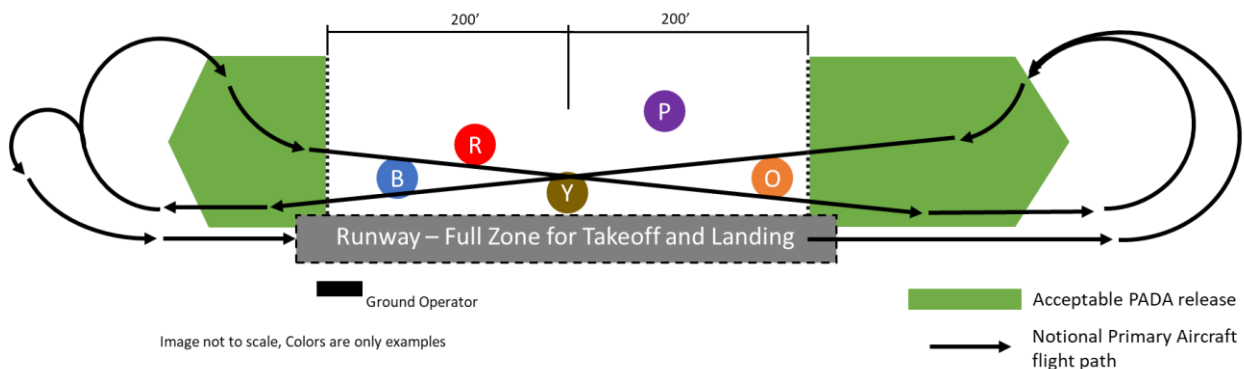

Figure 8-1 – Notional PADA Release Diagram. Not to scale.
- Complying with Section 8.16.1 and 8.16.2 as shown in Figure 8-1.